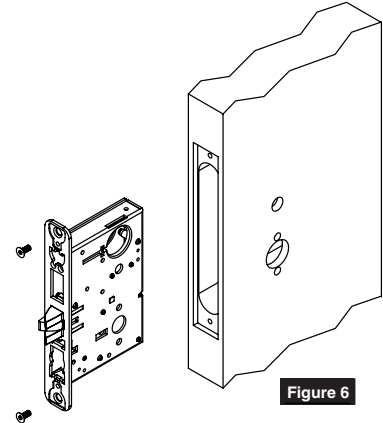

Figure 6
1. Insert mortise lock into door and fully tighten 1" lock mounting combination screws. (Figure 6)